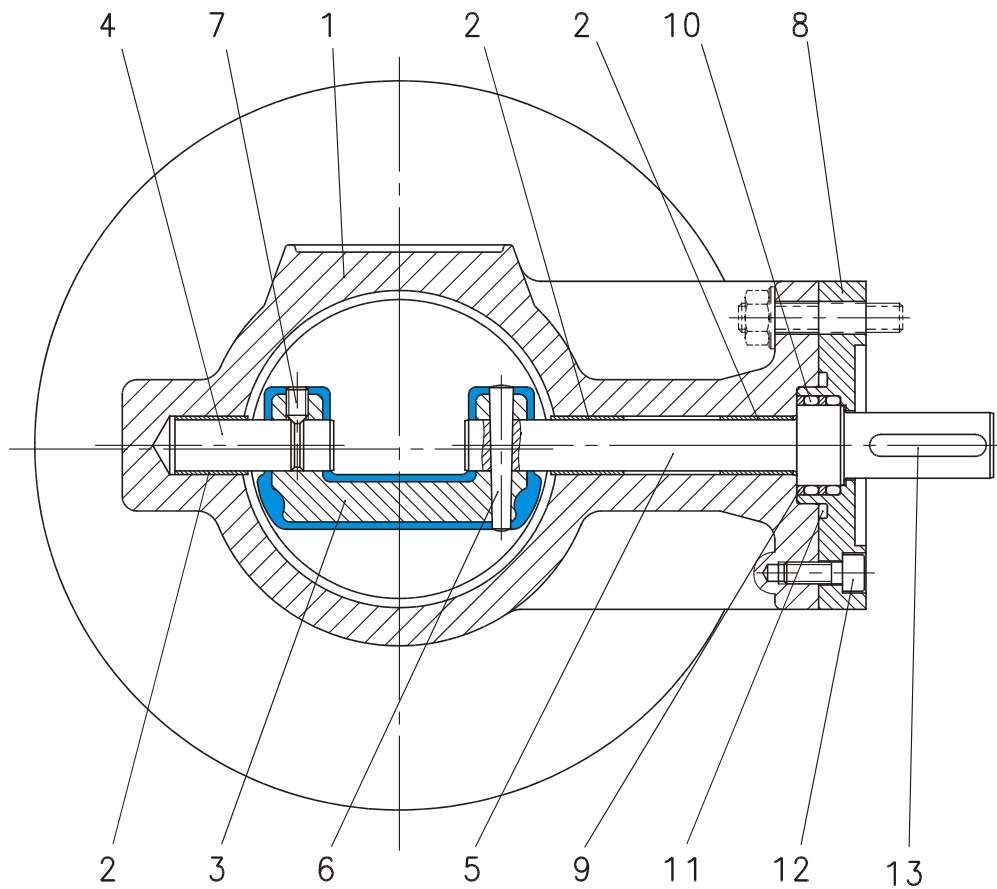

Figure 1: Sectional drawing of ROCO Butterfly Valve DN 80-125
3.2 Performance Description (see fig. 1)